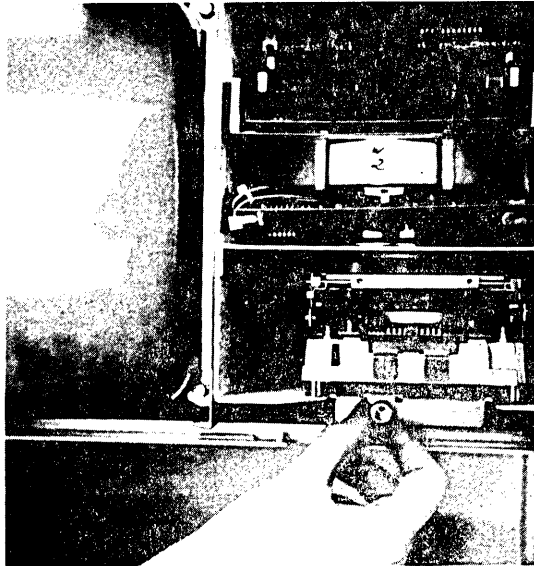

FIGURE 3
3. Loosen the thumbscrew at the base of the disk drive carrier by turning it counterclockwise. (See Figure 3.)